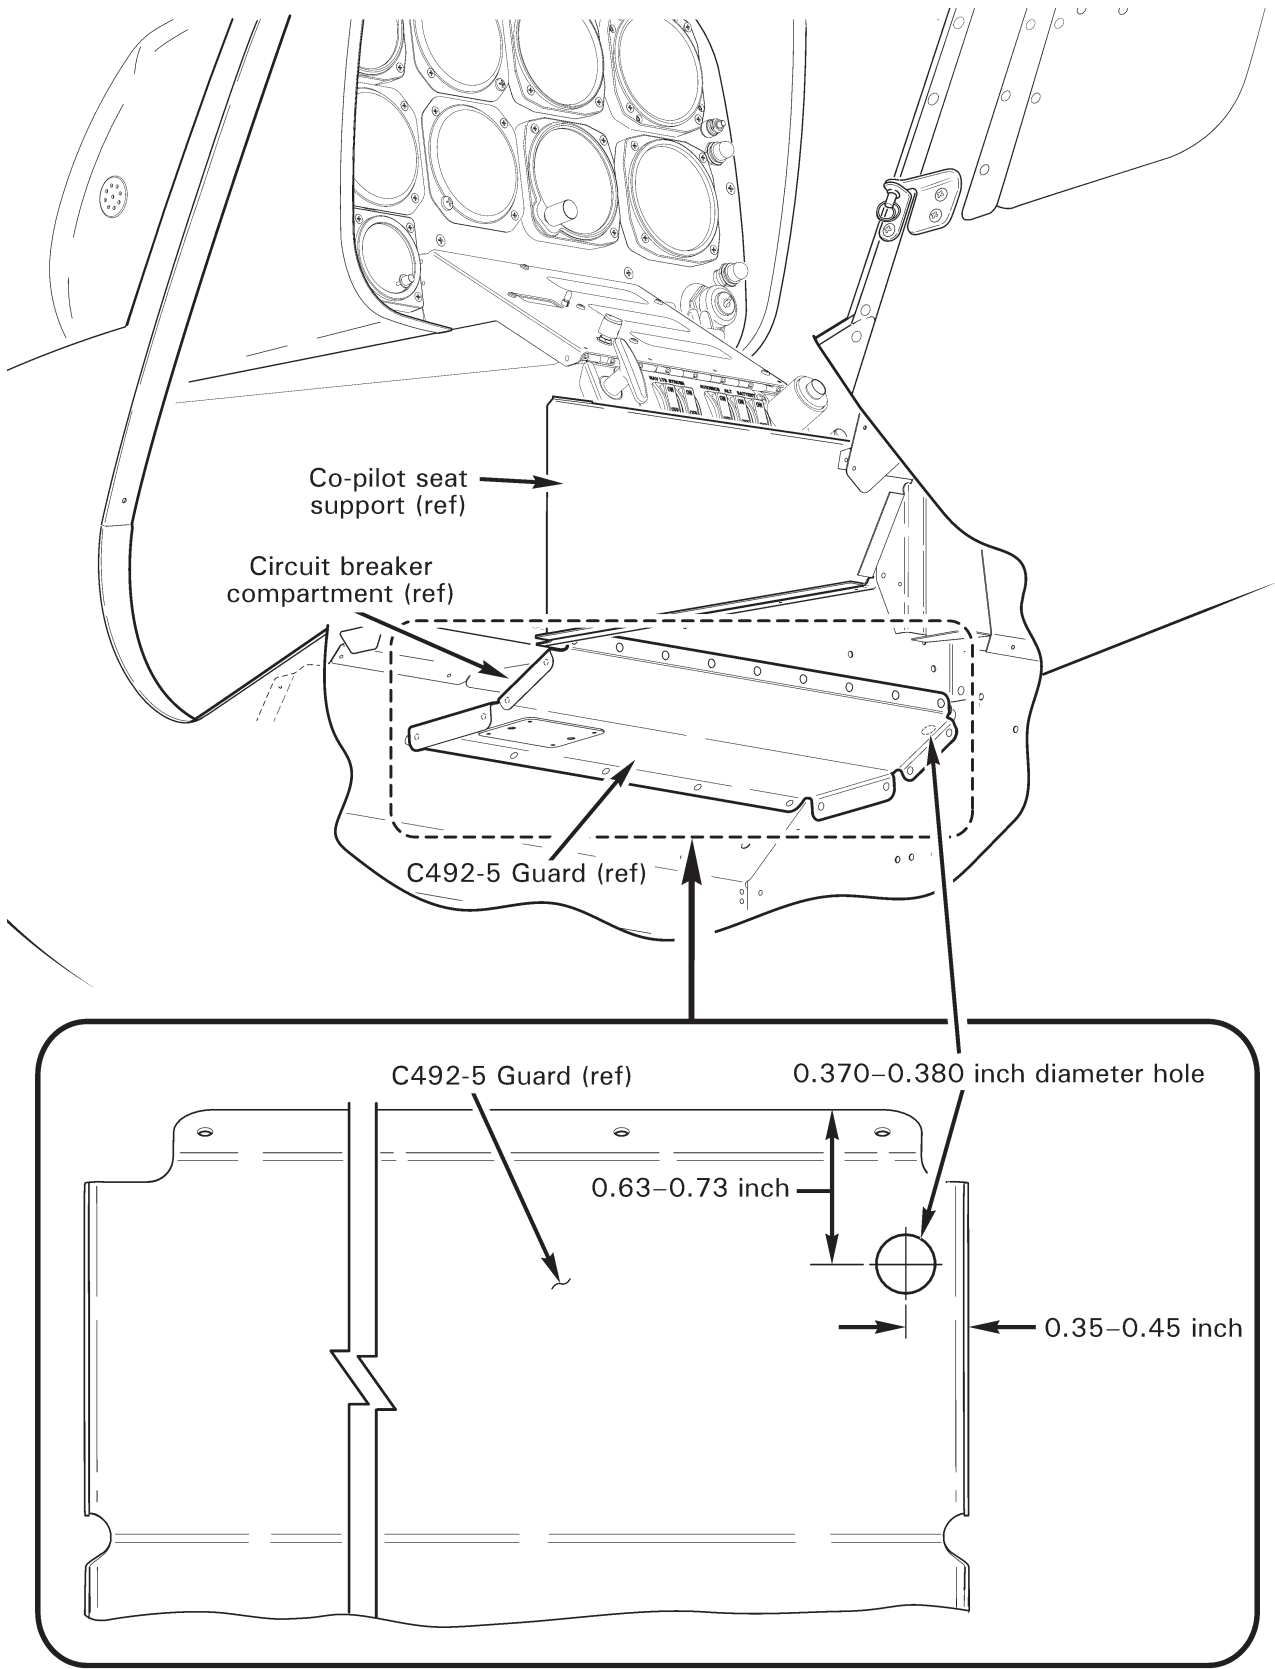

Figure 2 C492-5 Guard drill location
4. Refer to Figure 2. Lay out dimensions on C492-5 guard. Verify adequate clearance on reverse side. Using a drill stop, drill 0.370–0.380 inch diameter hole.